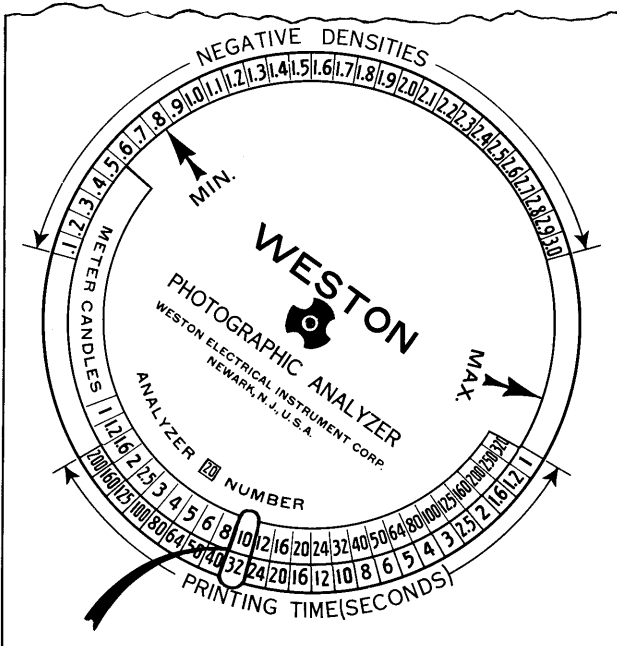

Fig. 3
a. On the Paper Data Sheet, find the trial Analyzer Number for the paper you are going to use, and turn the top disc of the Exposure Guide until this number appears in the window marked Analyzer Number, as shown in Figure 3.